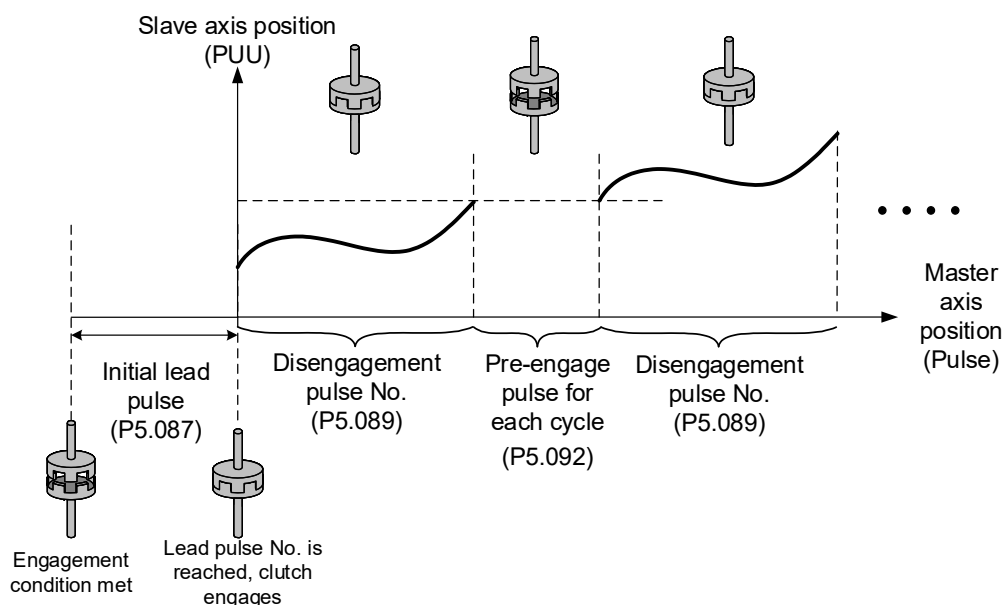

Figure 7-81 “Initial lead pulse” and “Pre-engage pulse for each cycle”
**NOTE:** The “pre-engage pulse for each cycle” and the “initial lead pulse” are different. The “initial lead pulse” is valid only for the first engagement whereas the “pre-engage pulse for each cycle” is effective before each engagement cycle. You can see how these two work together in Figure 7-81.